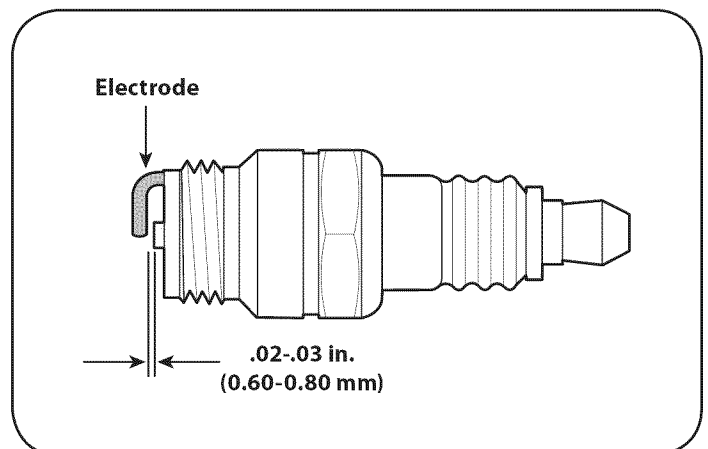

Figure 17
- Measure the plug gap with a feeler gauge. Correct as necessary by bending side electrode. See Figure 17. The gap should be set to .02-.03 inches (0.60-0.80 mm).